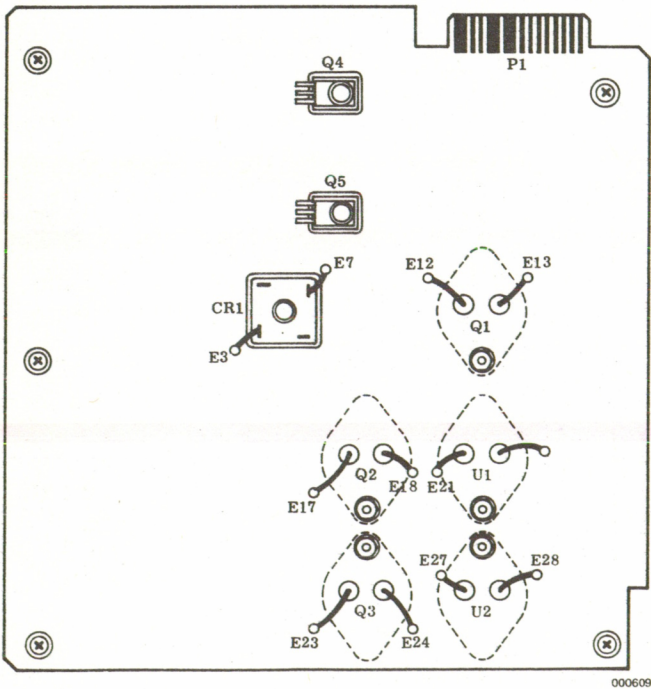

Figure 10-7. A1 Regulator PWA - With Components Involved with Removal/Replacement of PWA Outlined
REMOVAL OF THE REGULATOR PWA. To remove the regulator pwa, refer to Figure 10-7 and proceed as follows:
- Remove 5 pwa holddown screws as indicated in Figure 10-7.
REPLACEMENT OF THE REGULATOR PWA. To replace the regulator pwa, refer to Figure 10-7 and proceed as follows: